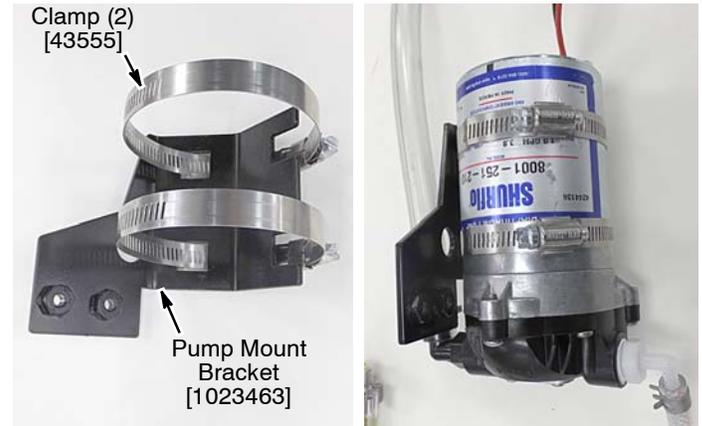

Fig. 39
2. Attach the ec-H2O pump assembly to the pump mount bracket using clamps as shown (Figure 39). Tighten clamps.